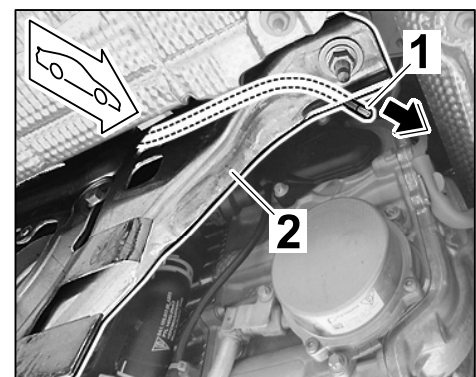

Figure 12
2.4.2 Pull standard vacuum line  $\Rightarrow$  Figure 12 -**1**- out of the engine carrier  $\Rightarrow$  Figure 12 -**2**-.